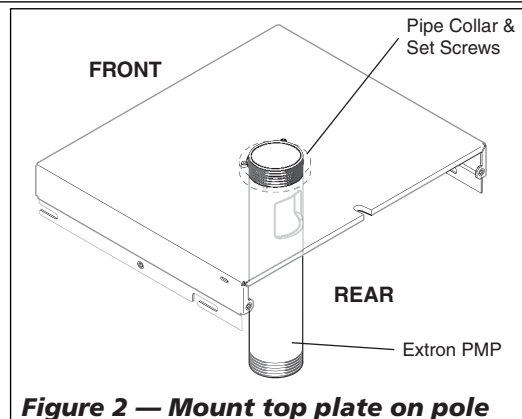

Figure 2 — Mount top plate on pole
4. **Slide the top plate up the pipe** until the pipe collar is positioned just above the cable access hole (Figure 2). Ensure the rear of the top plate is facing to the rear, in the same direction as the cable access hole in the pipe.